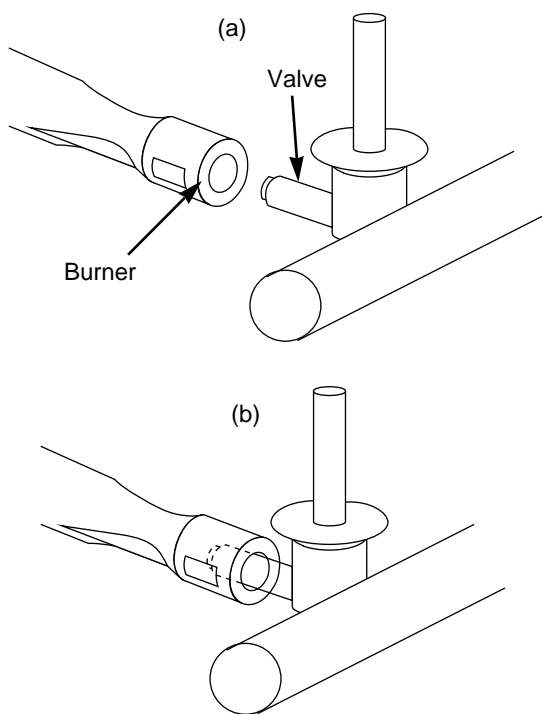

Figure 14
**⚠CAUTION:** The burner openings must be positioned properly over the valve orifices. Figure 14 (a).
Check proper assembly before fastening manifold in place. Figure 14 (b).